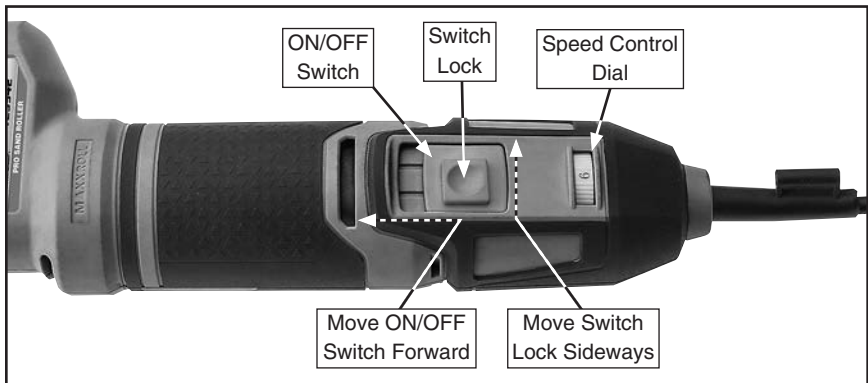

Figure 2. Location of ON/OFF switch and speed control dial.
5. Use your thumb to move switch lock sideways to unlock ON/OFF switch, then push ON/OFF switch forward to turn tool **ON** (see **Figure 2**). Keep your hand poised over switch in case you need to quickly turn tool **OFF**.
6. With tool running, carefully move speed control dial (see **Figure 2**) from "1" to "6", and then back down to "1".